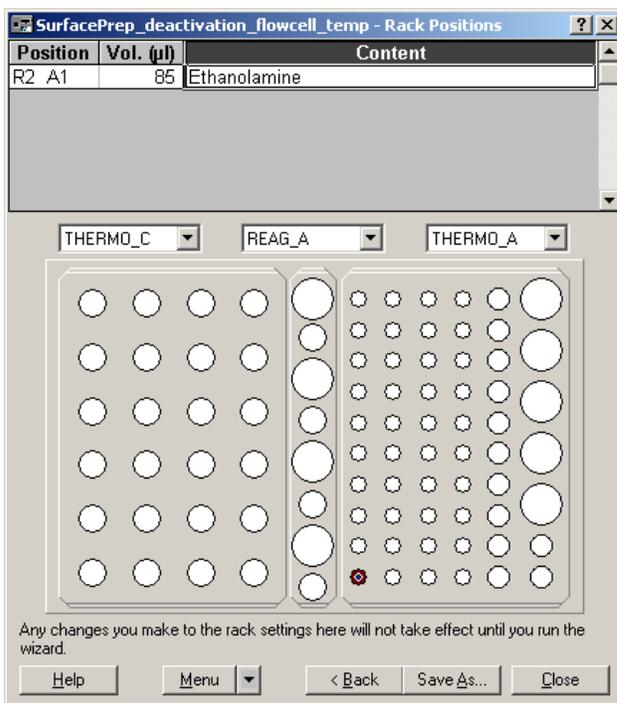

Figure 4.10
4.5.1 Place 1M ethanolamine in the rack position, A1, displayed in Fig 4.10